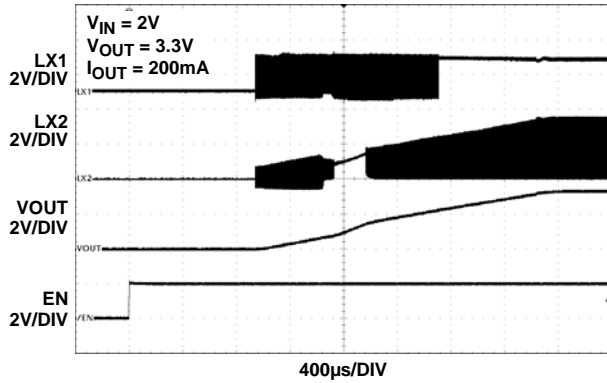
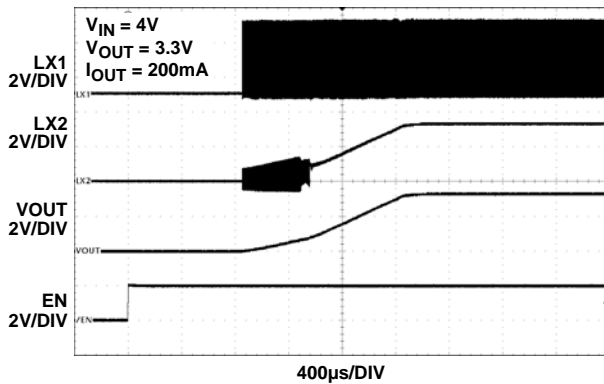

FIGURE 2. ISL9112 START-UP WITH $V_{IN} = 2V$ AND $V_{OUT} = 3.3V$
FIGURE 3. ISL9112 START-UP WITH $V_{IN} = 4V$ AND $V_{OUT} = 3.3V$
7. Monitor the output voltage start-up sequence on the scope. The waveforms will look similar to those shown in Figure 2 and Figure 3.